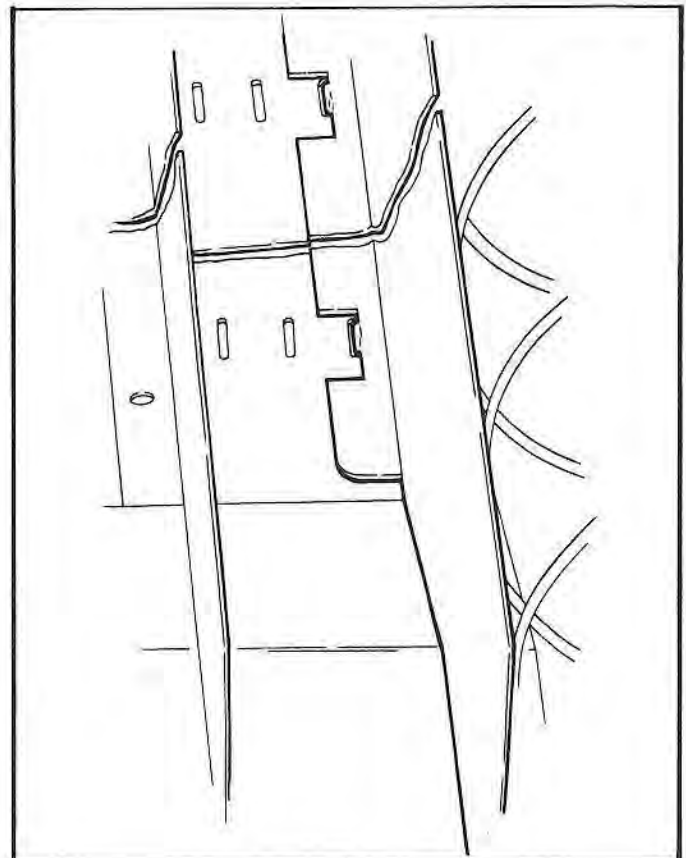

Figure 4. ALIGNMENT OF MOVEABLE PRODUCT SPACERS.
6. **PRODUCT SPACERS-5 SELECTION SHELF:** A product spacer (page 22, item 9) is used to reduce the width of the product area and should be used on any 5-selection snack shelf where the product width is  $4\frac{1}{2}$ " or less. Spacers should fit within  $\frac{1}{8}$ " of the product but *should not* fit tight against the product. These spacers are packed and shipped in the bottom of the door. There are three positions in each snack space where these spacers can be placed. To install the spacer, align the lock ears (on the lower edge of the spacer) with one of the three sets of slots (one front and one rear). (See Figure 4.) Push the spacer to the rear to allow the ears to enter the slots, then allow the spacer to move forward. Be sure the ears are in the same set of slots, front and rear. (See Figure 4.) Continue loading all spirals adjust with spacers where needed in the top shelf. Return the top shelf to the vend position and following this procedure load the remainder of the large spiral shelves.